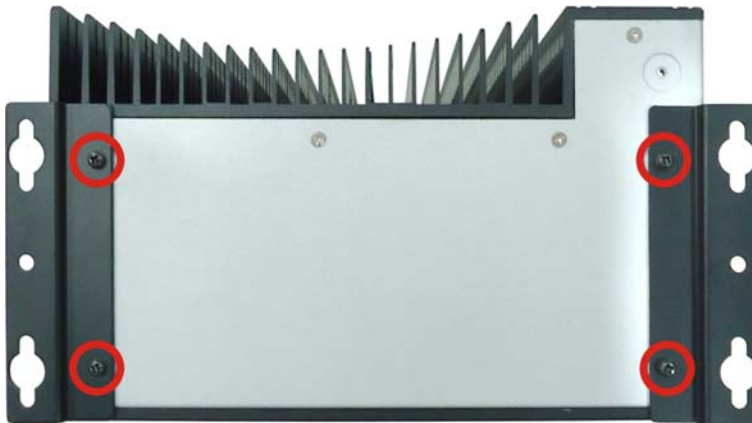

Figure 3-14: Mounting Bracket Retention Screws
Step 2: Align the two retention screw holes in each bracket with the corresponding retention screw holes on the bottom surface or the left side panel (**Figure 3-14**).
- Step 3:** Secure the brackets to the system by inserting two retention screws into each bracket (**Figure 3-14**).